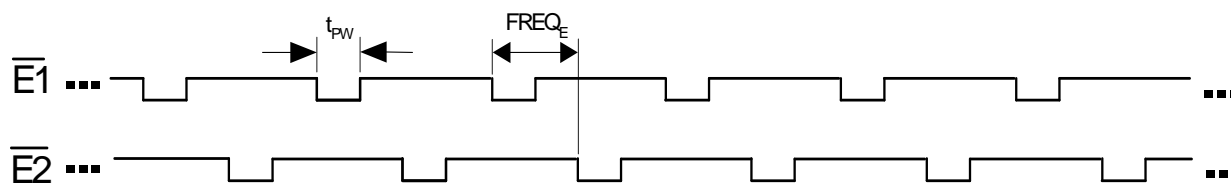

Figure 4. Alternate Pulse Format on E1 and E2
Setting bits MECH = 1 and STEP = 0 in the *Control Register* and ALT = 1 in the *Configuration Register* configures the $\overline{E1}$ and $\overline{E2}$ pins for alternating pulse output (see Figure 4). Each pin produces alternating active-low pulses with a pulse duration (t_{PW}) defined by the *Pulse Width Register* (PW):